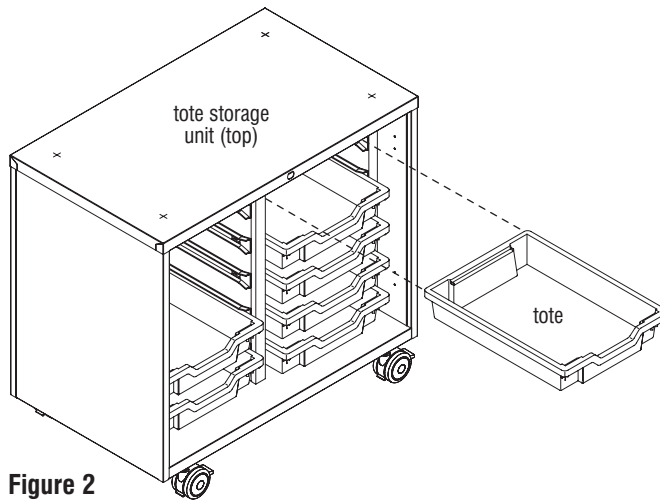

Figure 2
4. To gain access for drilling and to install fasteners, remove the top totes from the storage unit where applicable (Figure 2).